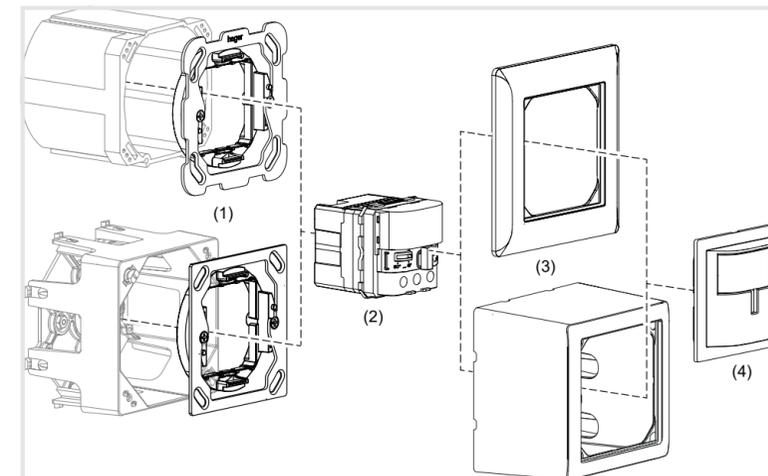

Figure 1: Design and layout of the device
Design and layout of the device (Figure 1)
- Complete installation according to the design and layout of the device (Figure 1).